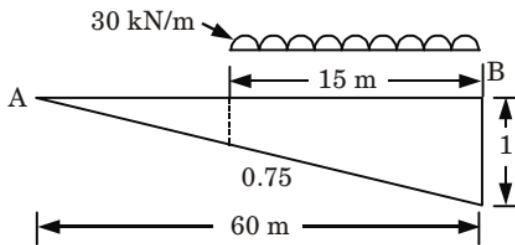

Fig. 27.
i. For maximum negative shear force the load should be placed as shown in Fig. 27.